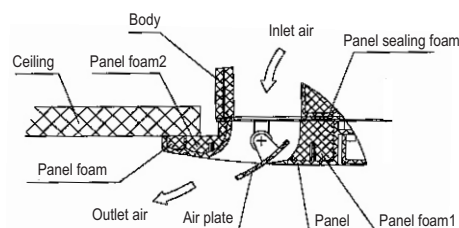
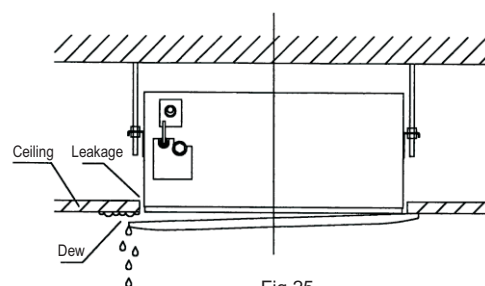
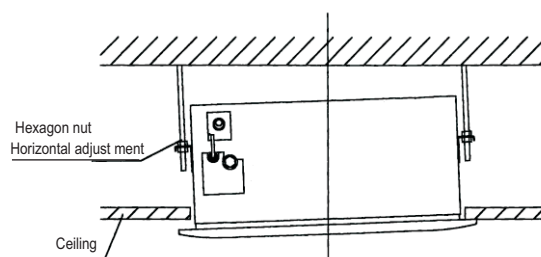
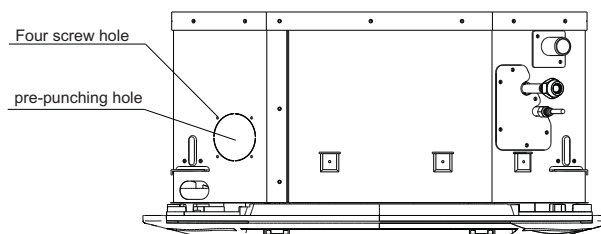

Fig.24
Fig.25
Fig.26
Fig.27
- Keep fastening the screws under the panel hooks, until the thickness of the sponge between the body and the panel's outlet has been reduced to about 4~6mm. The edge of the panel should contact with the ceiling well. (Refer to Fig.24) Malfunction described in Fig.25 can be caused by inappropriate tightness the screw. If the gap between the panel and ceiling still exists after fastening the screws, the height of the indoor unit should be modified again. You can modify the height of the indoor unit through the openings on the panel's four corners, if the lift of the indoor unit and the drainpipe is not influenced (refer to Fig.26-right).
(3) The installation of ventilation motor and ventilation pipe (if necessary)
- Using a tool to knock off the pre-punching hole. (Refer to Fig.27)
- Four screw hole reserved for installation. (Refer to Fig.27)